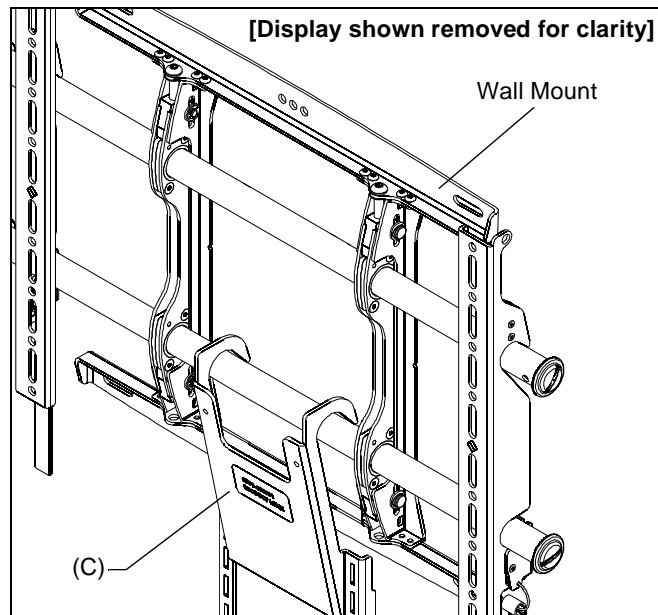

Figure 2
2. From below and behind the display, raise and hang hook bracket (C) onto lower wall mount rail. (See Figure 2)